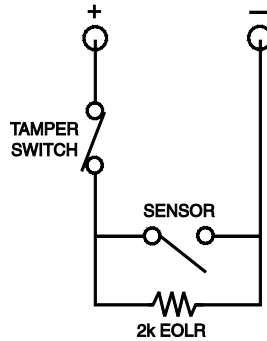

Figure 3-13: Wiring a Normally Open Sensor Loop for Tamper Supervision
- **If you are using a normally open sensor**, the tamper switch must be normally closed. Refer to *Figure 3-13* for the wiring configuration.